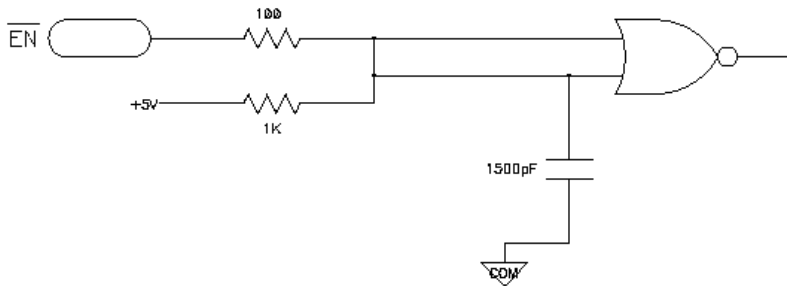
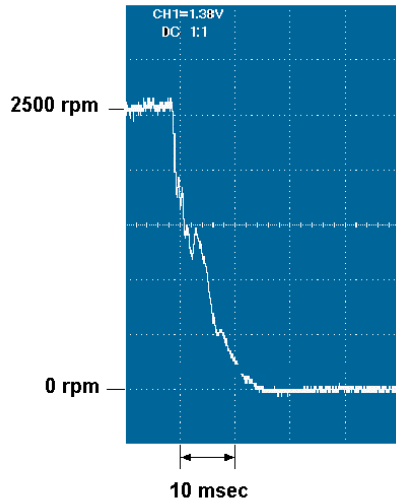

Figure 4 - Schematic diagram for Enable, Direction, and Brake Inputs
Figure 8 - Typical Braking Time
DIRECTION INPUT (Terminal 2) - This input is normally high, pulled up to the internal 5V reference. If left high, rotation of the motor shaft will be counter-clockwise (CCW) looking at the motor shaft (clockwise for parallel shaft gearmotors having an odd number of gearing stages). To reverse motor rotation, pull the input low. It can be pulled low by either connecting it to a switch to one of the common terminals (Terminals 6 and 12), as shown in Fig. 1, or by connecting it to an open collector output from a PLC or other control device. Note that it is not recommended to change direction while the INTEGRAMOTOR™ is running. It should be brought to a stop first, and then reversed. A schematic diagram is shown in Fig. 4.
ENABLE INPUT (Terminal 3) – This input is normally high, pulled up to the internal 5V reference, and must be pulled low to allow operation of the INTEGRAMOTOR™. It can be pulled low by either connecting it to a switch to one of the common terminals (Terminals 6 and 12), as shown in Fig. 1, or by connecting it to an open collector output from a PLC or other control device. A schematic diagram for this input is shown in Fig. 4.
BRAKE INPUT (Terminal 11) - This input is normally high, pulled up to the internal 5V reference. To dynamically brake the INTEGRAMOTOR™ to a stop, pull the input low. It can be pulled low by either connecting it to a switch to one of the common terminals (Terminals 6 and 12), as shown in Fig. 1, or by connecting it to an open collector output from a PLC or other control device. Note that this function is not the same as a holding brake. It brings the INTEGRAMOTOR™ to a quick stop, but will not hold it in place. The stopping time is a function of many variables and must be determined independently for each application. Some of the variables include the size of the INTEGRAMOTOR™, the gear ratio, the load inertia, and friction. Typical stopping performance is shown graphically in Fig. 8, with time divisions of 10 msec. A schematic diagram for the brake input is shown in Fig. 4.
- Switch the BRAKE input low to dynamically brake the INTEGRAMOTOR™ to a quick stop. Typical stopping time is shown in Fig. 8.